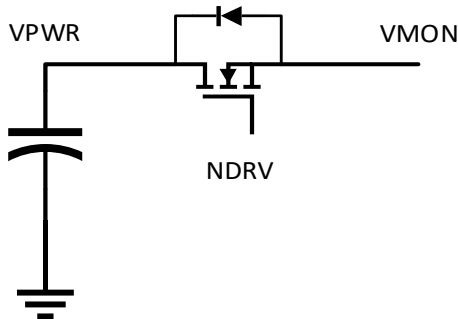

Figure 3 Single NMOS Connection
The NDRV pin supports either a single N-MOSFET or back-to-back N-MOSFETs. For Type-C ports, certification considerations necessitate employing back-to-back N-MOSFETs as port load switches. To mitigate the risk of MOSFET drain-source over-voltage during abnormal operating conditions, it is advisable to configure the source terminals inward and incorporate a gate-source (GS) resistor (as illustrated in Figure 3). The GS resistor should be rated at 500kΩ or higher.